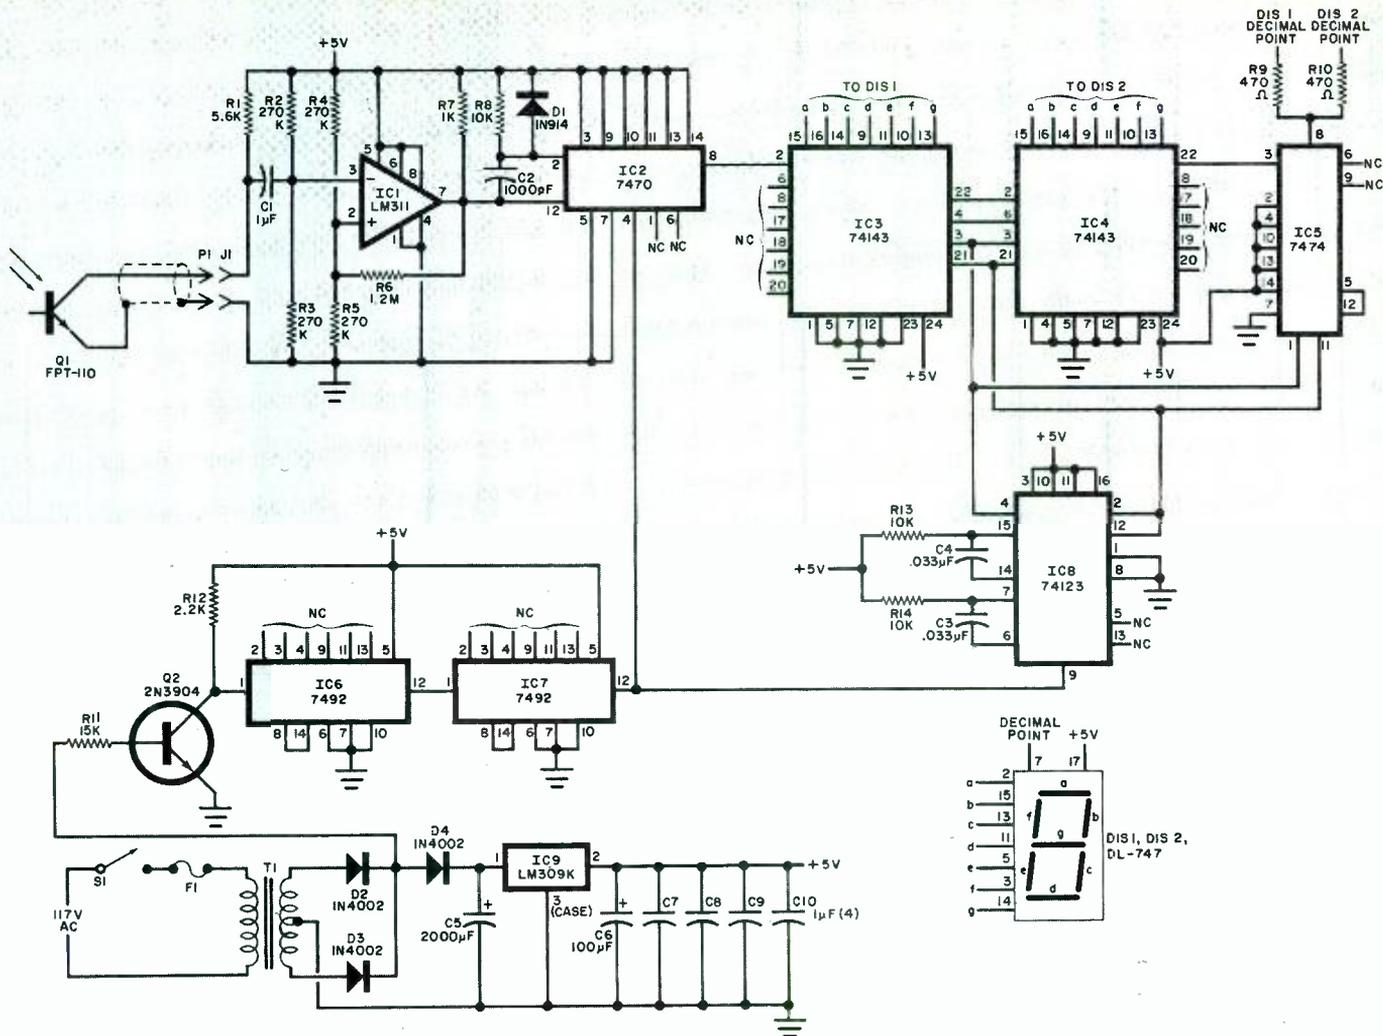

Fig. 2. Schematic diagram shows how pulses from sensor Q1 are squared up by IC1, gated by IC2, and counted by IC3 and IC4.
**About the Circuit.** The schematic diagram of the phototach is shown in Fig. 2. Phototransistor *Q1*, the optical sensor, is connected to the rest of the project by a short length of shielded cable terminated with *P1*, an RCA phono plug. When *Q1* is illuminated by a chopped light beam, it alternately turns on and off. The resulting waveform at the collector of *Q1*, which approximates a square wave when the light beam is sharply chopped, is coupled by *C1* to *IC1*, a comparator used as a Schmitt trigger. Feedback provided by *R6* establishes the hysteresis that is characteristic of Schmitt trigger behavior.